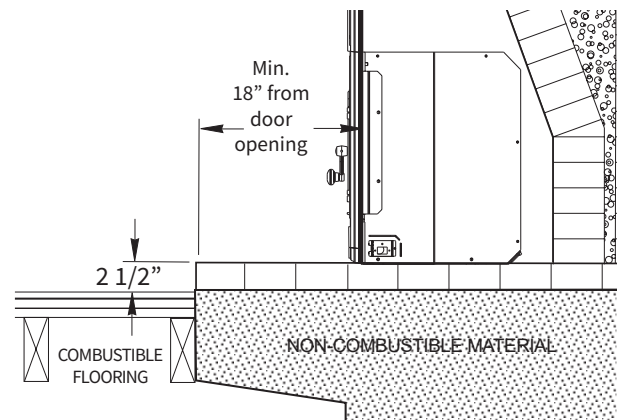

Figure 3.5.. Canada only:
- it is raised a minimum of 2 1/2" and constructed on noncombustible materials in a code-approved masonry fireplace. See fig. 3.5.